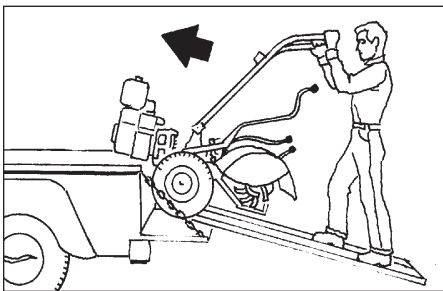

Figure 4-7: To go up ramps, use
5. Shift the Wheels/Tines/PTO Lever (Figure 4-2) into FORWARD position and follow the tiller up the ramps (Figure 4-7). Check the wheels as you move the tiller forward. Ensure that they move up the center of each ramp.